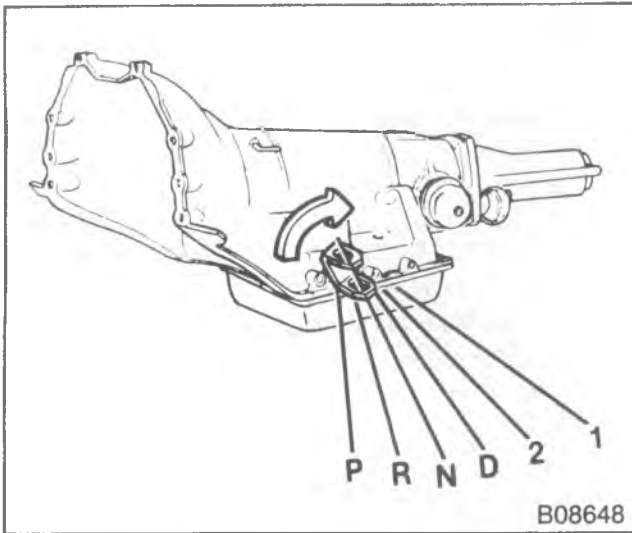

Figure 42 — Shift Positions
1. Loosen the screw (226).
- Move the shift lever (A) to the forward position, the back to the second detent. (Figure 42).
4. Hold the rod (240) tightly in the swivel (244).